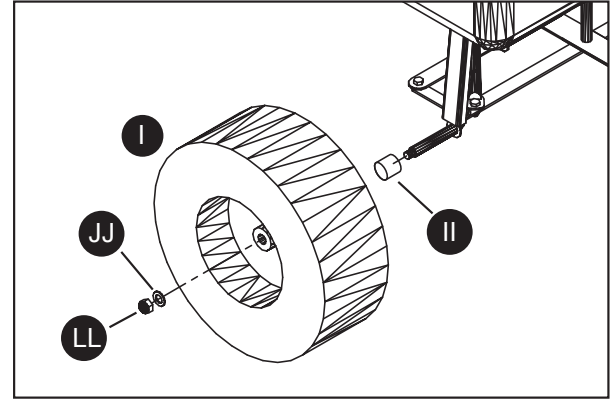

Fig. 10
8. Attach the four wheels (I) by first placing the wheel spacers (II) onto each axle, then the wheels (I) and M12 flat washers (JJ), and M12 lock nuts (LL), as shown in Fig. 10.